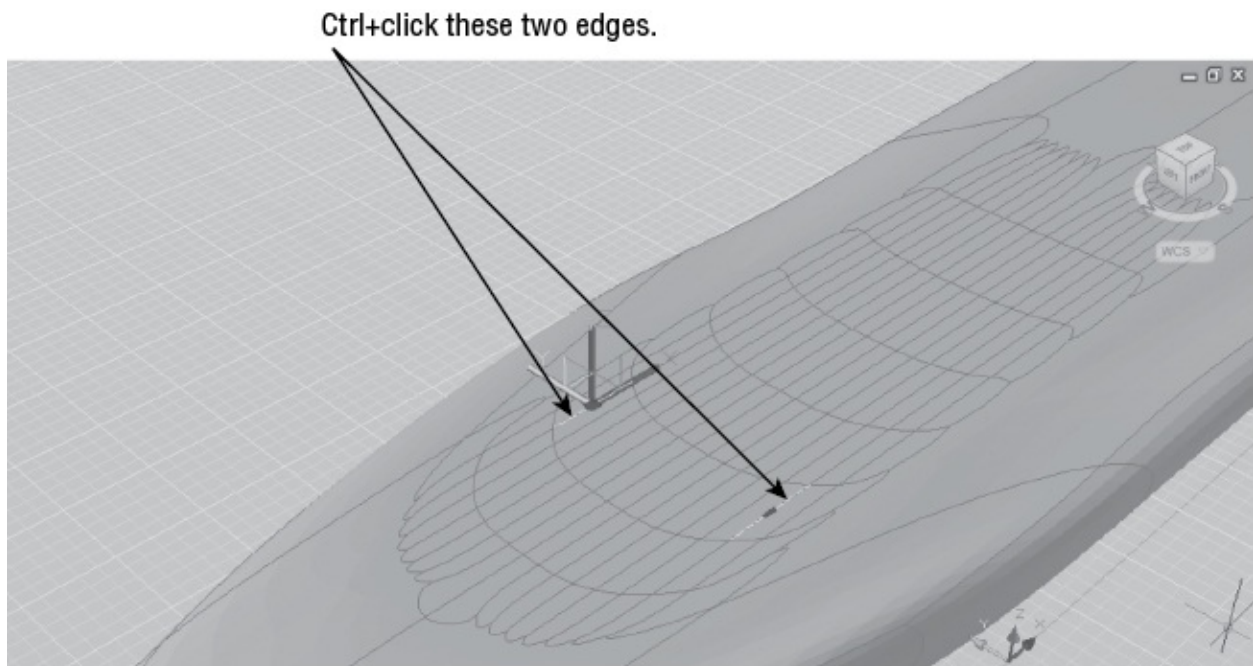

FIGURE 23.18 Select the edges for the fins.
1. Zoom into the surfboard so that your view looks similar to Figure 23.18.
3. Hold the Ctrl key and click the edges shown in Figure 23.18.